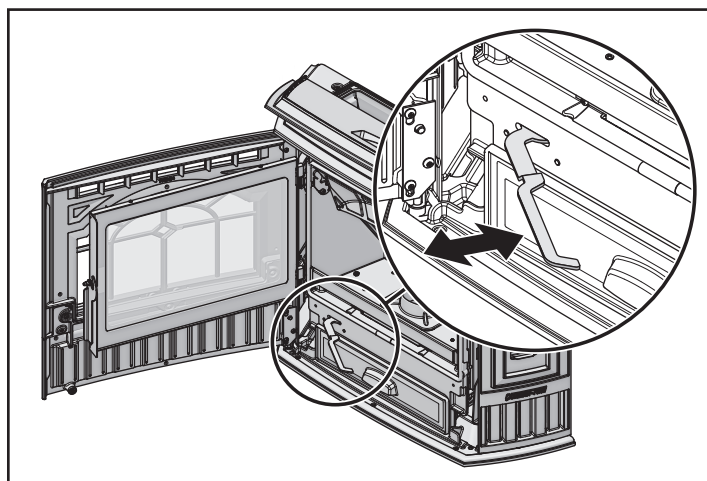

Figure 16.2
- c. Pull fire pot floor cleaning lever two times until the ash falls into the ash pan below. **Figure 16.2**